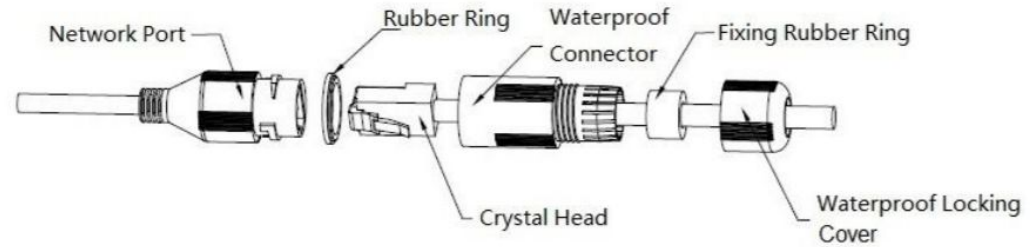

Figure 2-7
**Waterproof connector installation for network port (if applicable):** For a device with a plastic enclosure, you can directly rotate the dome enclosure clockwise, cover the dome enclosure and complete installation. See figure 2-7.